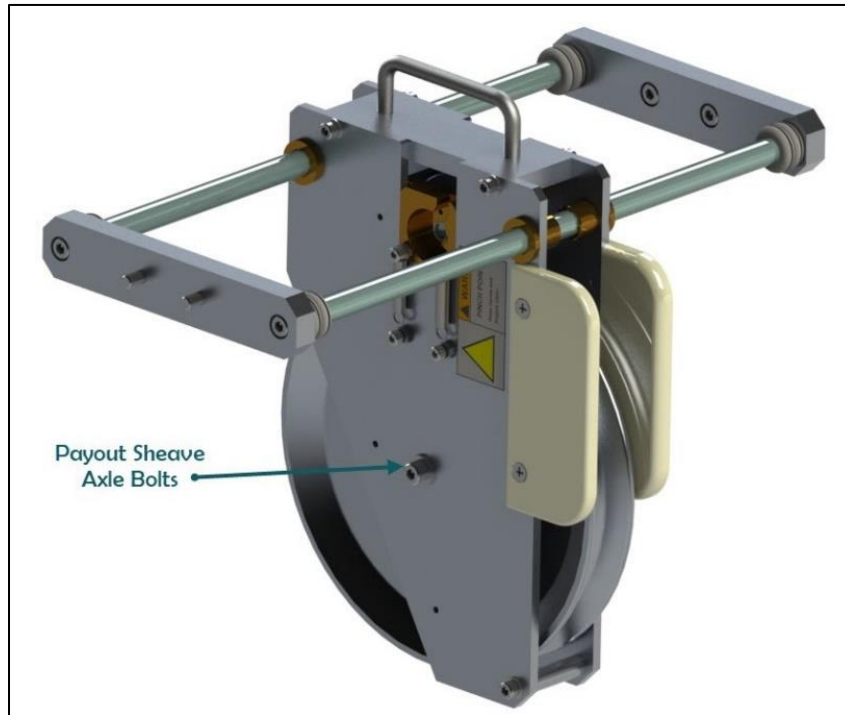

FIGURE 22: MANUAL LEVEL WIND SHEAVE TETHER REMOVAL
- a. Winches with manual level wind (Figure 22):